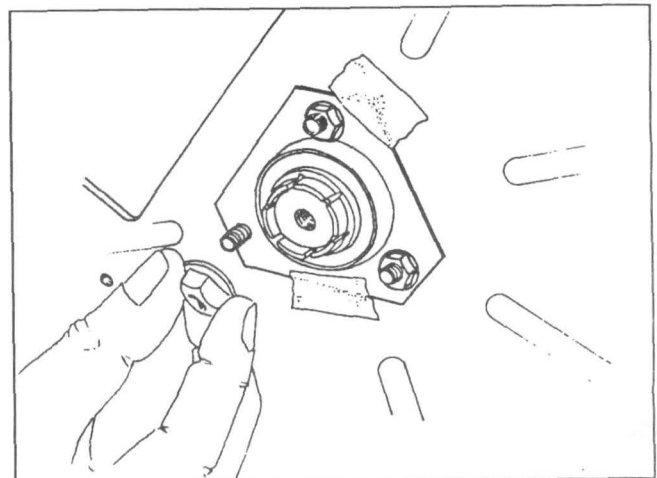

Fig. 23
C. Gently place the remaining flangette over the three bolts, with the lip of the recessed bore facing outward. Loosely (hand-tighten only) secure the flangettes with three Whiz locknuts ($5/16''-18$). See Fig. 23. The three locknuts will be securely tightened in a later step.